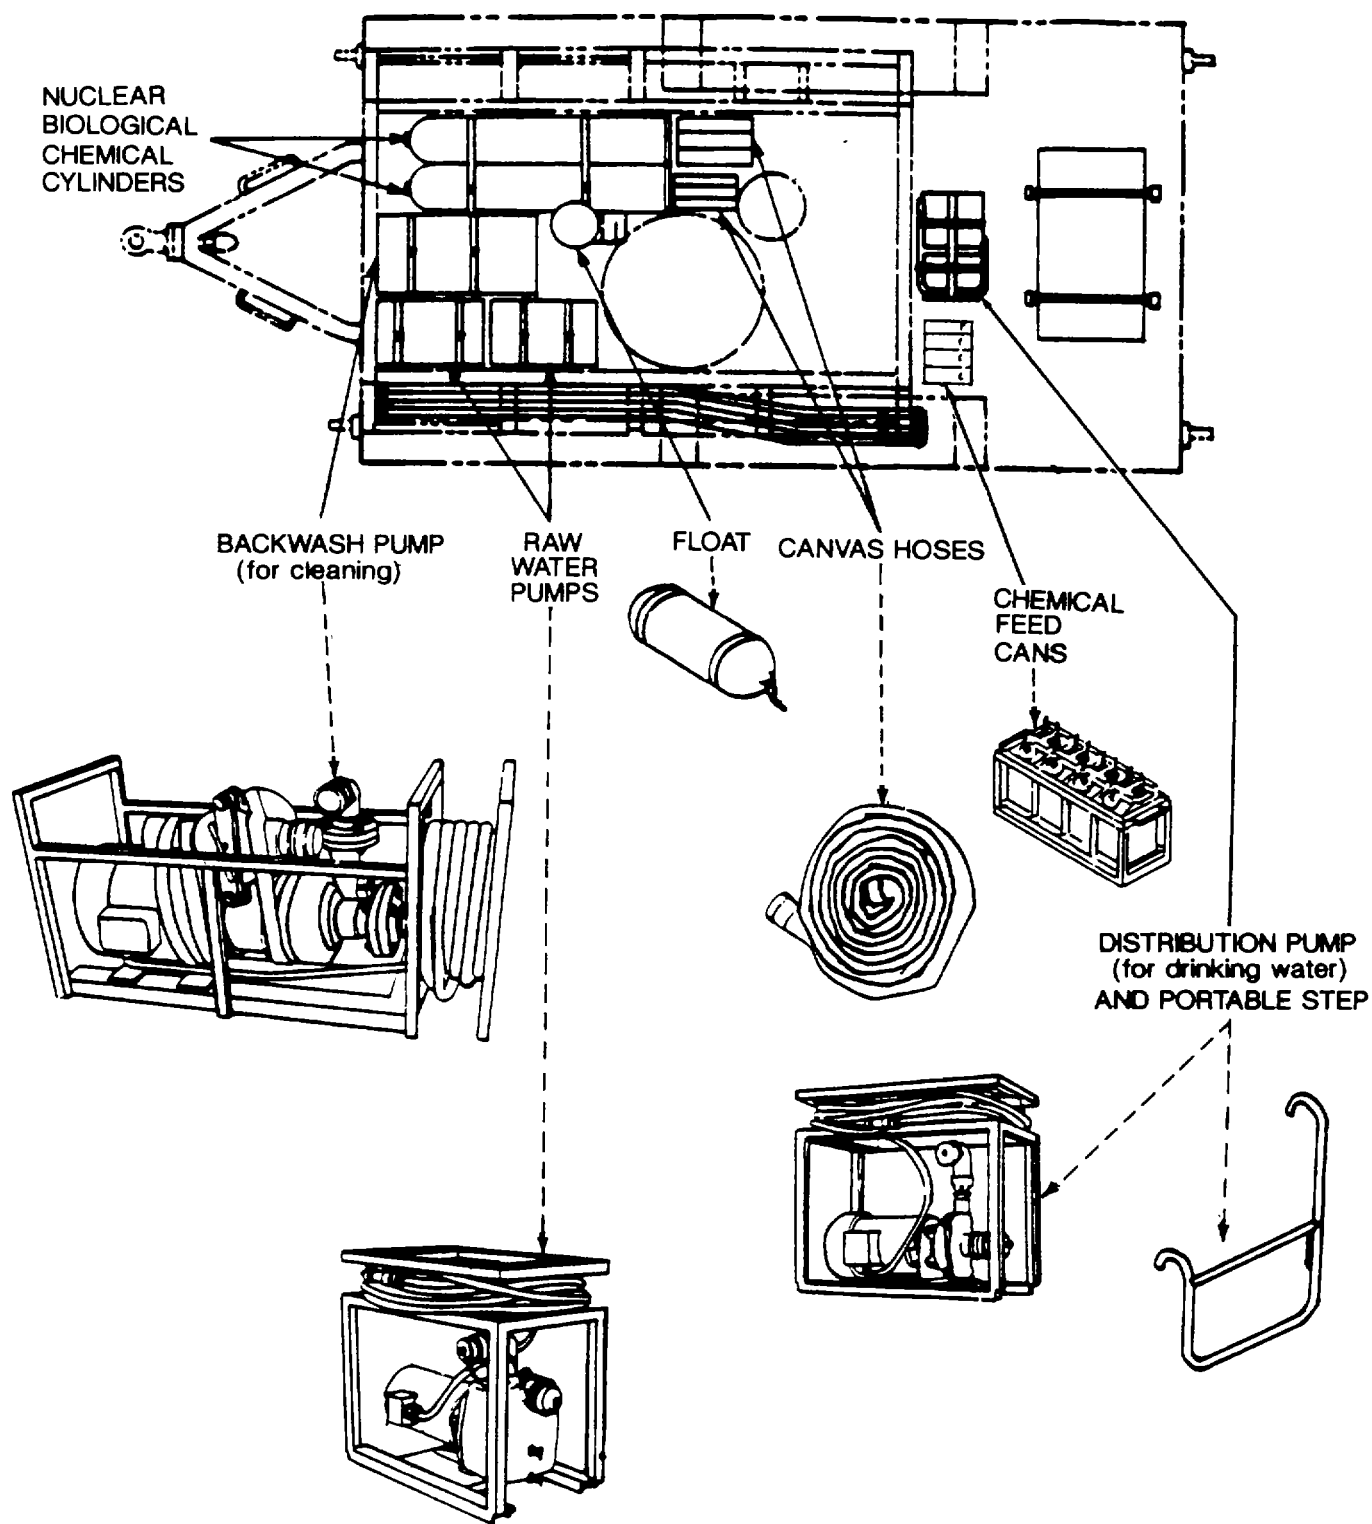

Figure 1-5. Top View of ROWPU With Pumps (Army)
b. In the second layer you will find two raw water pumps and a backwash pump (fig. 1-5 and 1-6). The pumps are covered with canvas and strapped down. A distribution pump is located at the rear of the unit, next to the generator (Army ROWPU only), not shown here. Army ROWPU includes a portable step strapped down with distribution pump. On the right side are 1 ½ inch and 2-inch diameter discharge (canvas) hoses, rolled-up. A raw water float is in the center of the ROWPU next to two nuclear, biological, chemical (NBC) cylinders. Figs. 1-7 and 1-8 show ROWPU with operating equipment removed.